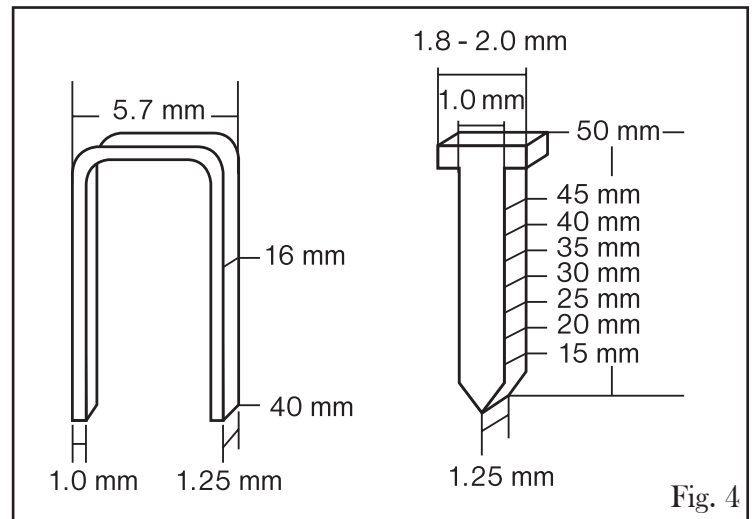

Fig. 4
3. Your nailer accepts either 18 gauge brad nails 5/8" - 2" in length or 18 gauge 1/4" narrow crown staples 5/8" - 1-5/8" in length (Fig. 4). A maximum of 100 fasteners may be loaded in the magazine.